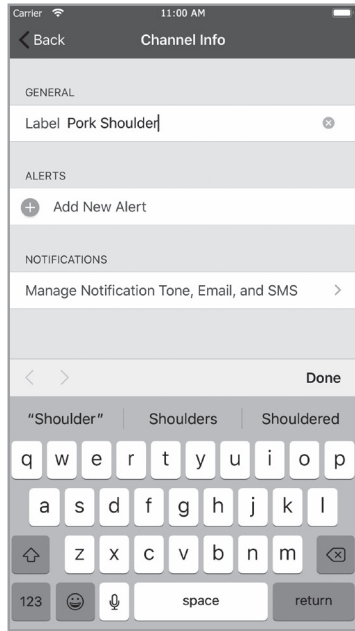

FIG 29
- The names of the two probe ports can be set according to what you're cooking. Tapping on the probe port in the grey banner will allow you to change its name (FIG 29). This name will also be used in the various charts throughout the app.
- An alert – in the form of an app alert, an SMS text message, or an email – can be set to let you know when one of the meat probes are at a certain temp. Simply tap on the temperature shown for the probe in the gray banner, tapping "Add New Alert," then "Set-up Alert" and set up your parameters (FIG 29, 30).